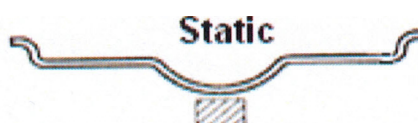

Fig. 10-12
2. Press F key, switch to static balance (ST) mode.
4. Slowly spin wheel, when both side counterweight position indicator light (figure 5-1(8), (9)) all on, stick counterweight on 12 o'clock position middle of rim, ect figure 10-12.